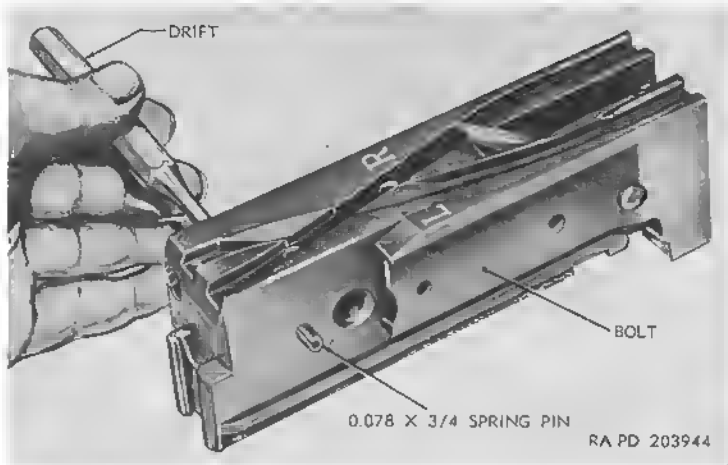

Figure 9. Driving out spring pins.
- (3) Using a drift, drive out the two $0.078 \times \frac{3}{4}$ spring pins (fig. 9). If difficulty is encountered in removing the pins without damage, refer to higher echelon maintenance.